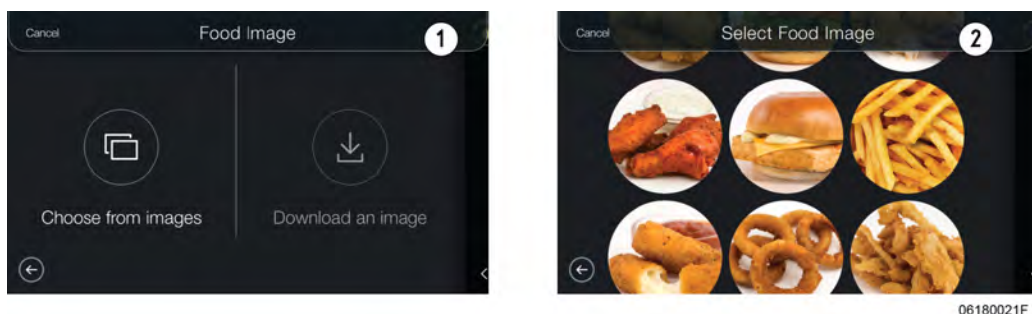

Figure 5-13
- 6. Food Image** - This step allows you to select a food image for the food item. Choose from image lets you select an existing image from the control. Download an image lets you select an image you provide on a USB drive, see (1) in Figure 5-13, page 48. To **Choose from image**, tap the icon above the text Choose from image, then Swipe up or down to locate your desired image from the available images, see (2) in Figure 5-13, page 48. Tap the image to select it, then tap **OK**. To **Download an image**, tap the icon above the text Download an Image, then insert your USB drive, and then tap **OK** to confirm. Swipe up or down to locate your desired image from your USB drive. Tap the image to select it, and then tap **OK**. Tap **Next** to continue, or tap **Change the image** to go back and select another image.